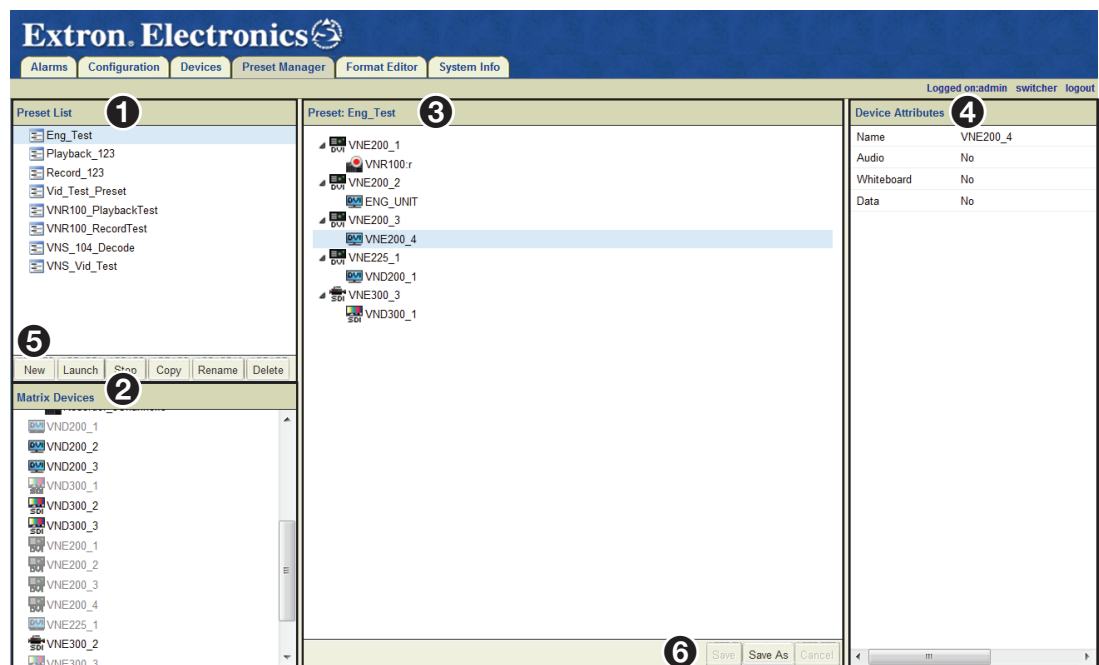

Figure 79. Preset Manager Page
Click the **Preset Manager** tab to open the page (see figure 79).
The **Preset List** panel (see figure 79, ❶ on the previous page) provides management and control of the system presets from the preset list toolbar and provides a way to quickly reconfigure devices.